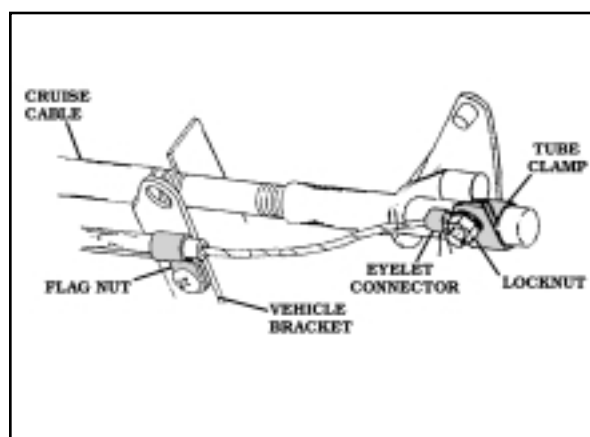

FIGURE 15
4. **FIGURE 15** IS AN EXAMPLE OF A **FORD™** THROTTLE CONNECTION USING THE **TUBE CLAMP**.